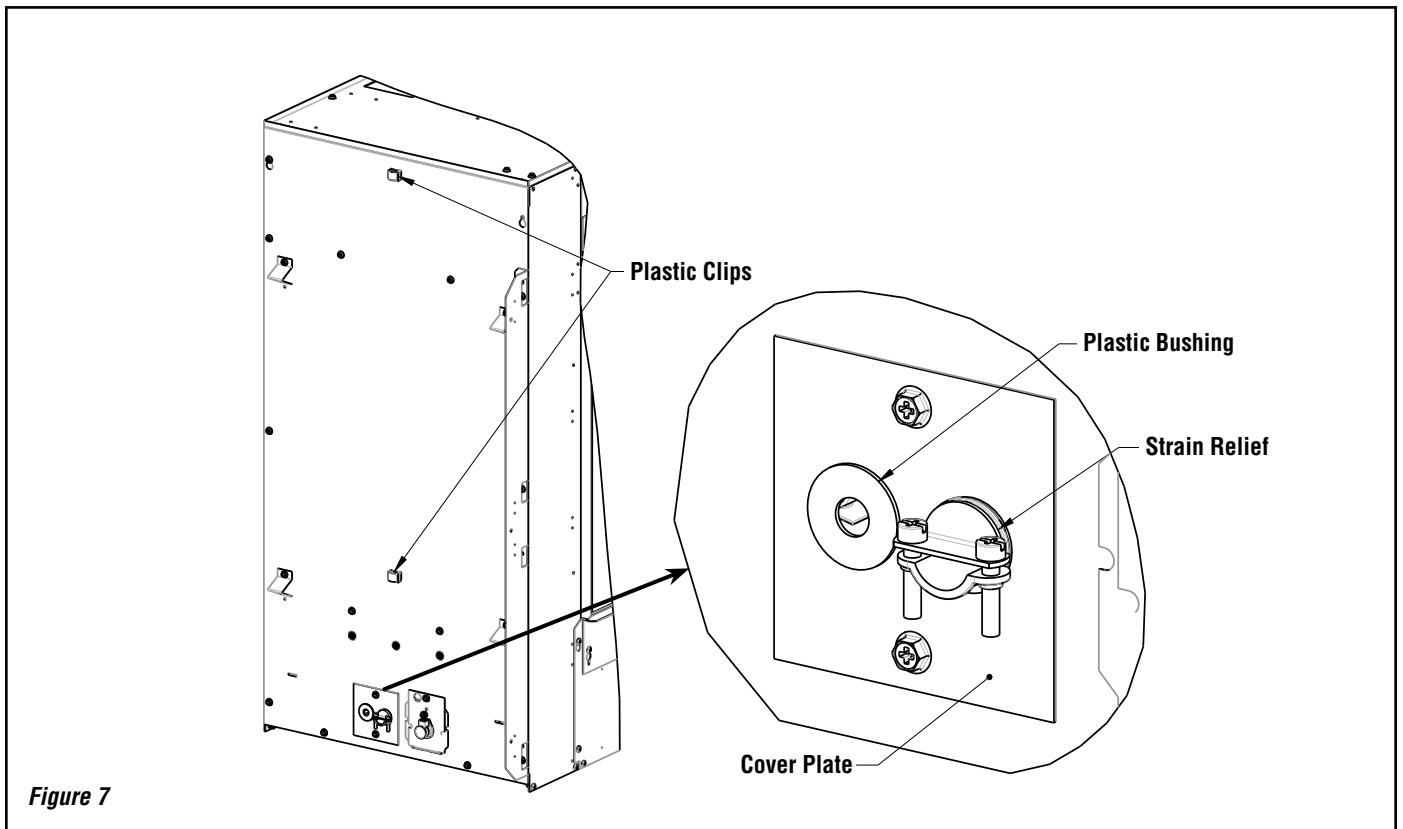

Figure 7
- 5.1 Remove square **cover plate** on left side of fireplace (**Figure 7**).
- 5.4 Push the two **plastic clips** [#14] in to the two holes on the left side of the fireplace, they will snap in place (**Figure 7**). These will be used for holding the vacuum hose in place.